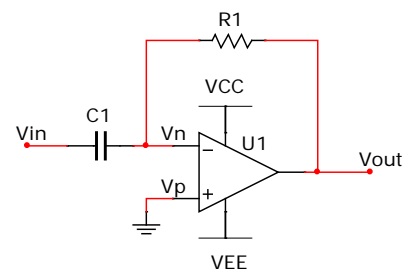
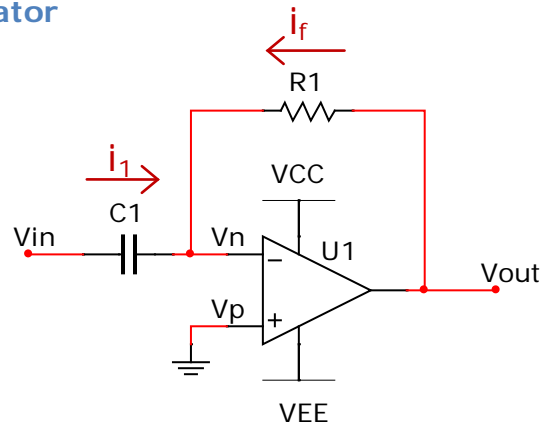

Figure 3. Simple differentiator.
Figure 15. Simple differentiator.
- Analyze the differentiator circuit in figure 15 (same as figure 3) to derive an equation for  $V_{out}(t)$  as a function of  $V_{in}(t)$ . Show that the output is the derivative of the input.